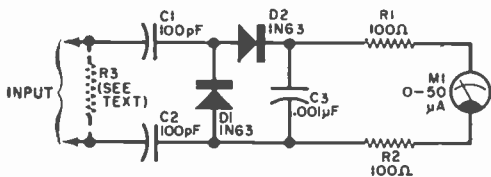

Fig. 1. Values shown for C1, C2 and C3 are for frequencies up to about 3 MHz. For higher frequencies, smaller value capacitors are required.
the attenuator resistors (R1 through R5) in accordance with Fig. 1. Observe, also, that S2 is mounted on potentiometer R15.
Using the terminal screws that come with the meter, secure the circuit board to the back of the meter housing with  $\frac{1}{4}$ " spacers between the two surfaces to isolate the board from the meter. Complete the rest of the point-to-point wiring, following the schematic (Fig. 1). Now install the battery.
Fig. 1. Reverse voltage is applied alternately across the emitter-base junction of the transistor under test by the combined action of diodes D1 and D2 on the a.c. voltage from the transformer. Transistor Q1 acts as a current limiter. Potentiometer R4 can be adjusted to limit maximum current flow to a predetermined value. Zener diodes and other diodes as well as neon lamps can be checked out with this adapter. Output voltages are fed to an oscilloscope for interpretation.
As shown in Fig. 1, switches S2, S3, and S4 are in the PNP position, and the anodes of diodes D1 and D2 are connected to the emitter and collector test jacks respectively. The base test jack is returned to ground through current sampling resistor R5.
**The Circuit.** The "R.F. Sniffer" circuit shown in Fig. 1 is a voltage doubler type of detector, formed by capacitors  $C1$  and  $C2$  and diodes  $D1$  and  $D2$ . This type of circuit provides almost twice as much sensitivity as would be obtained from a single-diode detector.
point-contact type diodes for D1 and D2. In applications where the frequency is higher than about 3 MHz, the values for C1, C2 and C3 should be considerably smaller than shown in Fig. 1.
**How It Works.** Figure 1 shows the circuit diagram for the converter. Resistors  $R1$  through  $R4$  comprise a 10-megohm voltage divider used for range selection. The N-channel field-effect transistor (FET),  $Q1$ , in a source-follower configuration isolated by  $R5$ , acts like a high-impedance to low-impedance matching device, and also forms one leg of a bridge circuit.
Fig. 1. High-impedance characteristic of field effect transistor permits 10-megohm voltage divider to come between the circuit under test and a VOM. Divider sets up 4 voltage ranges from 0.5 volt to 500 volts.
**How It Works.** The circuit (Fig. 1) consists essentially of a two-stage, high-gain squaring amplifier ( $Q1$  and  $Q2$ ), a regenerative switch ( $Q3$  and  $Q4$ ), a
Fig. 1. When calibrating the individual ranges of the audio frequency meter, alternately replace  $R9$ ,  $R10$ , and  $R11$  with a suitable potentiometer and adjust for the required optimum indication. Replace the pot with an equivalent  $\frac{1}{2}$ -watt resistor. Similarly, adjust  $R6$  until the voltage at point A measures exactly twice the voltage at point B.